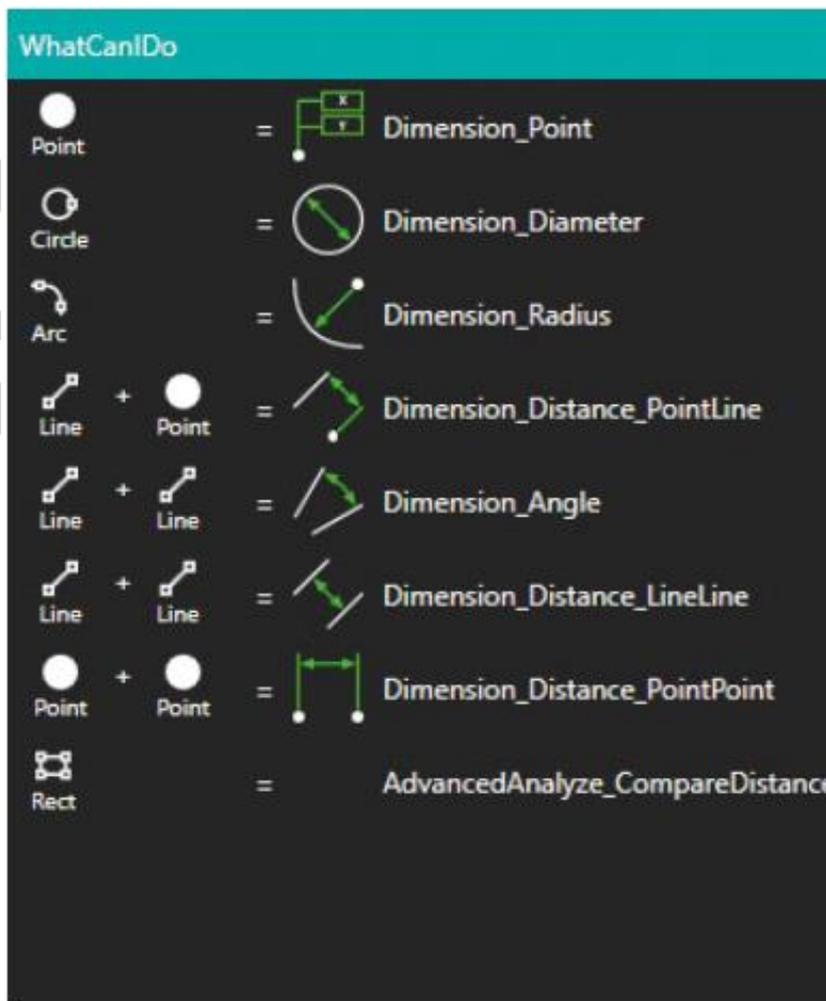

Fig 5.2. Possible measurements of purchased and optionally installed HORUS software
5.17. The OKO CHECK EASY 70 installation can be equipped with paid commercial metrological SOFTWARE for carrying out a wide range of metrological measurements in serial and single productions. Measurements are made automatically according to the preset measurement scheme. See figure 5.2. (Specify the cost of the software.)